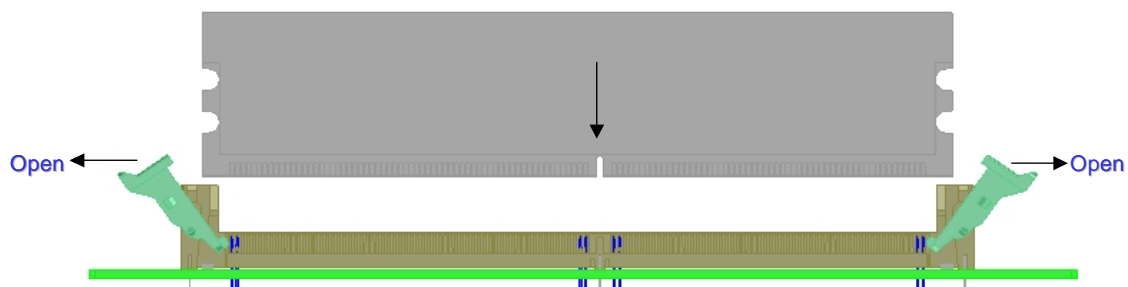

Figure 2 — Example of latch ejectors in fully open position
5. Ensure that both latch ejectors are in the fully open position. See Figure 2.